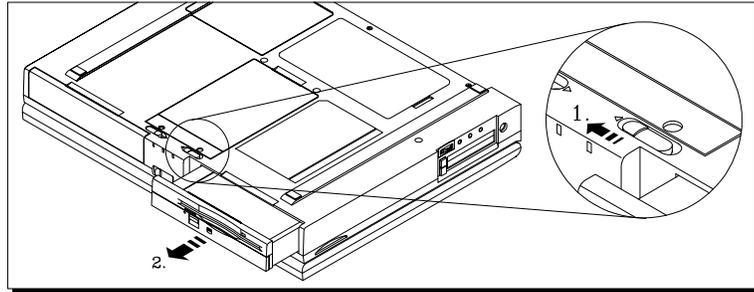
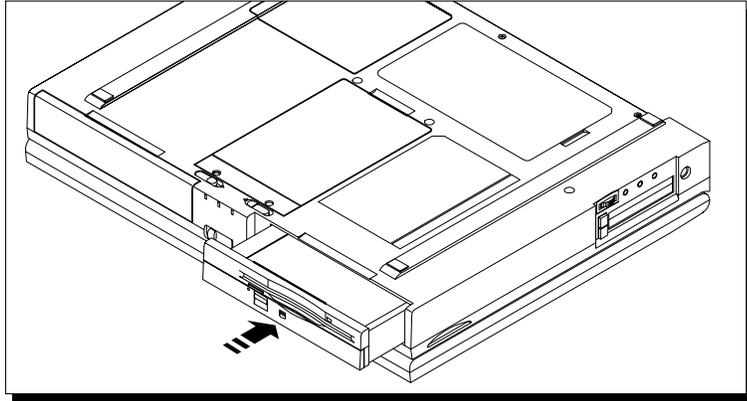

Figure 6-2: Removing the Combo Module from Bay 2
Figure 6-3: Installing the Combo Module into Bay 2
3. Locate the Module Lock/Release latch on the bottom of the Notebook. Please refer to *Figure 6-2*.
4. Slide the Module Lock/Release latch in the direction of the arrow (1) as shown in *Figure 6-2*. This will unlock the Combo module from its original position.
5. Slide the module out of its housing (2).
6. Install the desired module. Please refer to *Figure 6-3* and the instructions that follow. The Lock/Release latch is spring-loaded and will snap back into place.